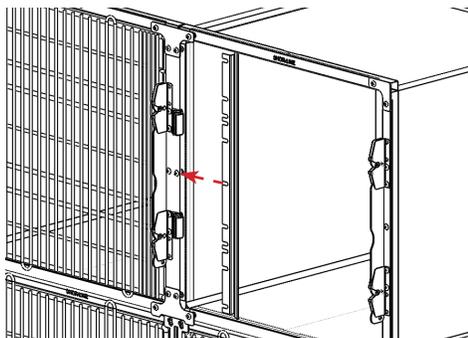

FIGURE 2.11 - Jamb Seal Installation
STEP 2: Align the slots on the jamb seal (side) with the hardware screws. Slide the jamb seal under the trim plates, strips and hardware. Secure the jamb seal with the center screw, do NOT fully tighten. See FIGURE 2.11